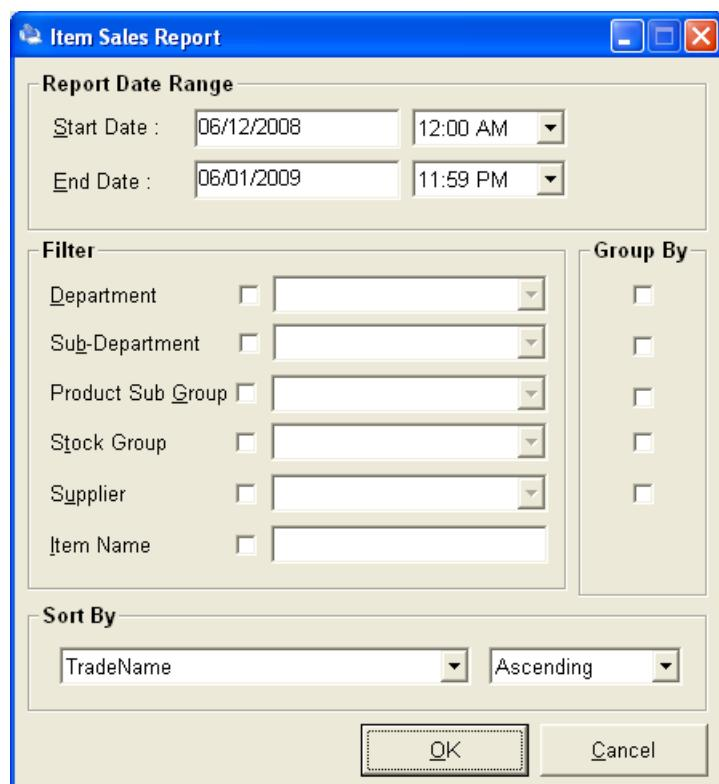

Figure 352
2. The Item Sales Report window is displayed (as shown in Figure 352).